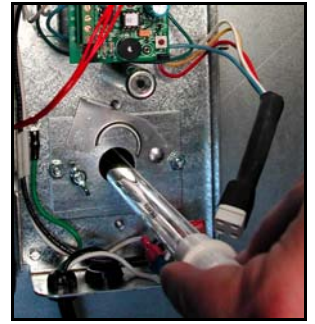

Figure 16
8. Insert lamp through the hole until lamp cannot be inserted any further. (See Figure 16)